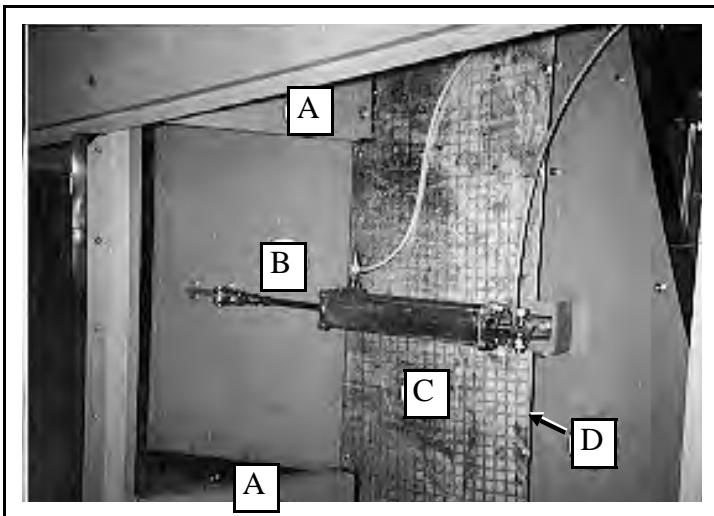

FIGURE 5 (MSSM0113AE)
7. Remove upper and lower damper gussets (FIGURE 5, Items A) from left side of machine base. Remove cool-down damper, cylinder and cylinder support (used on dryers only) (FIGURE 5, Item B). Remove panel covering coil (FIGURE 5, Item C), and remove gusset (not shown) that damper hinge is bolted to. Remove gusset (FIGURE 5, Item D).